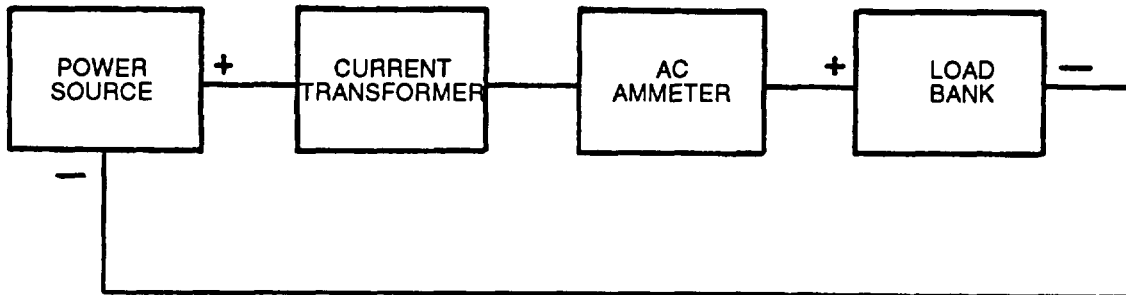

FIGURE 4-12. Testing Current Transformer
- d. Set up a test circuit using 10 gauge wire as shown in FIGURE 4-12. Make ten passes with wire through phase A window.